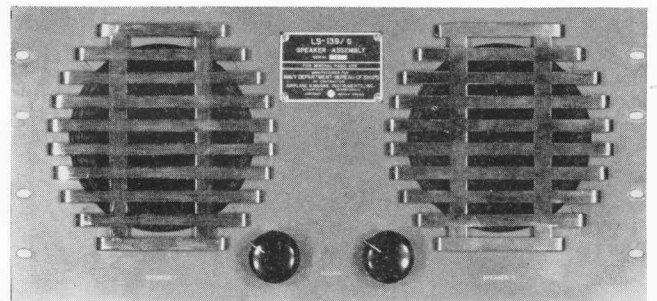

Figure 1-20. Speaker Assembly AN Type LS-139/G, Front View
(14) SPEAKER ASSEMBLY AN TYPE LS-139/G (*Figure 1-20*).—Speaker Assembly AN Type LS-139/G is a size E panel on which are mounted two Navy Type CPS-491814 permanent magnet speakers with an attenuator for each. Output transformers are mounted on the speaker frames for impedance match-